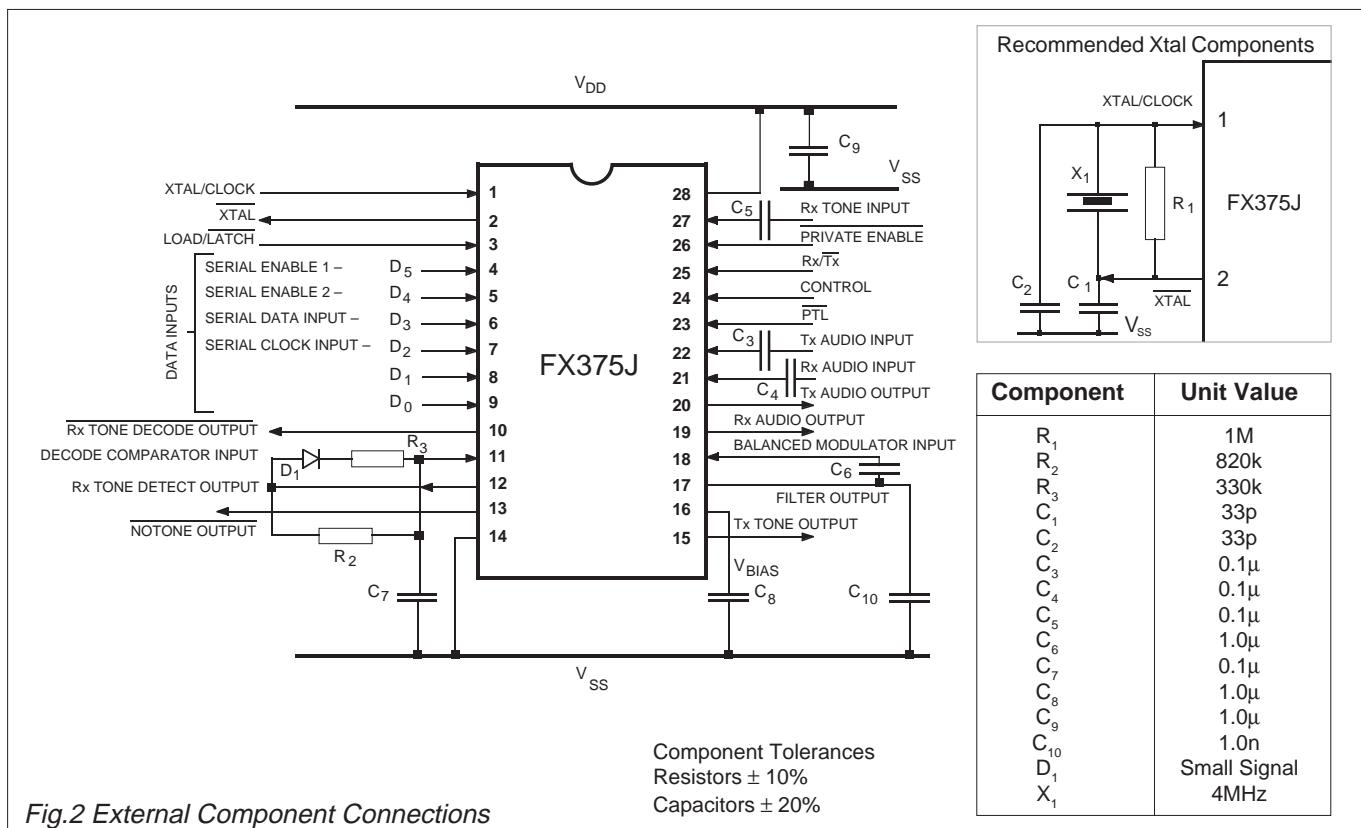

Fig.2 External Component Connections
Xtal/Clock: The input to the clock oscillator inverter. An external 4MHz Xtal or clock input is to be applied at this pin. See Figure 2.
Xtal: The 4MHz output of the clock oscillator inverter. See Figure 2.
Decode Comparator Input : A logic '1' at this pin, in Rx, is compared internally with a fixed reference level, a more positive input value will produce a logic '0' at the Rx Tone Decode Output. This input should be externally connected to the Rx Tone Detect Output via external integrator components $C_7$ , $R_2$ , $R_3$ , $D_1$ (see Figure 2).
Rx Tone Detect Output : This output, in Rx, goes to a logic '1' when a valid, programmed CTCSS tone is received at the Rx Tone Input. This input should be externally connected to the Decode Comparator Input via external integrator components $C_7$ , $R_2$ , $R_3$ , $D_1$ (see Figure 2).
$V_{BIAS}$ : This bias pin is set internally to $V_{DD}/2$ . It must be externally decoupled using a capacitor, $C_8$ , of $1.0\mu F$ (minimum) to $V_{SS}$ , see Figure 2.
Filter Output : The Input Audio Bandpass Filter output, this pin must be connected to the Balanced Modulator Input via a capacitor, $C_6$ , and decoupled to $V_{SS}$ by $C_{10}$ , see Figure 2.
Balanced Modulator Input : The input to the Balanced Modulator, this pin must be connected to the Filter Output via a capacitor, $C_6$ , see Figure 2.
Rx Audio Input : The Audio input pin for the Rx mode. Input signals should be a.c. coupled via an external capacitor, $C_4$ , see Figure 2.
Tx Audio Input : This is the voice input pin for the Tx mode. Signals should be a.c. coupled via an external capacitor, $C_3$ , see Figure 2.
Rx Tone Input : The received tone input to the on-chip CTCSS decoder and should be a.c. coupled via capacitor $C_5$ , see Figure 2.
6. The functions in this table are applicable when the device is connected as recommended in Figure 2.